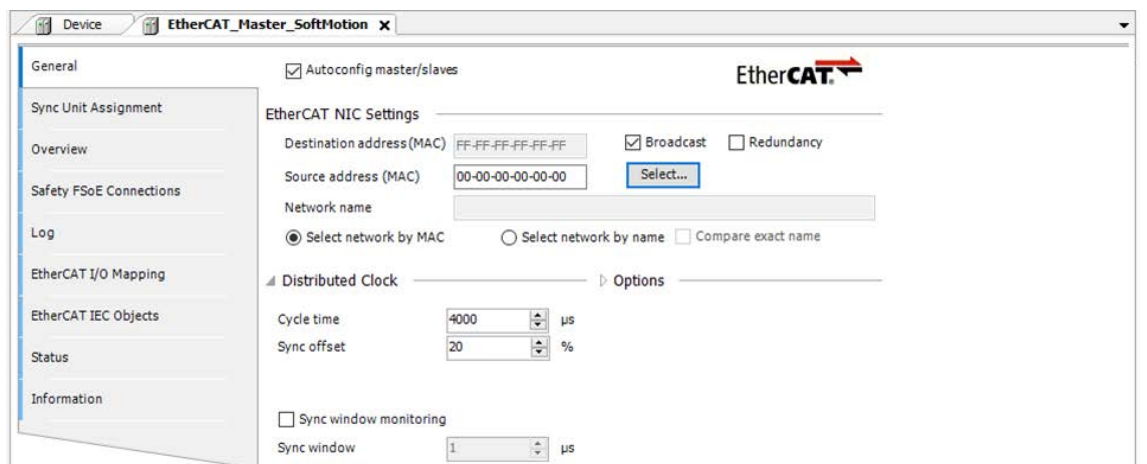

Figure 6-152 EtherCAT integration CODESYS | Select MAC address
- EtherCAT master cycle time (refer to →Figure 6-152)